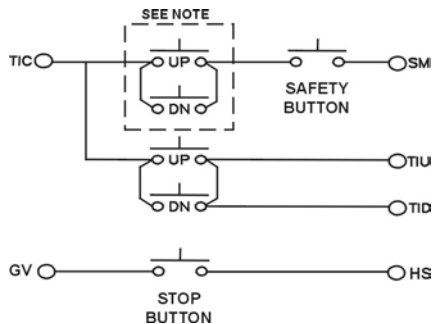

Figure 3-15
3. Wire temporary run box as per Figure 3-15.